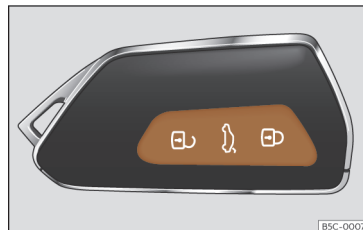

Fig. 71 Remote control key: buttons.
- Lock: press the  button >>> **Fig. 71.**